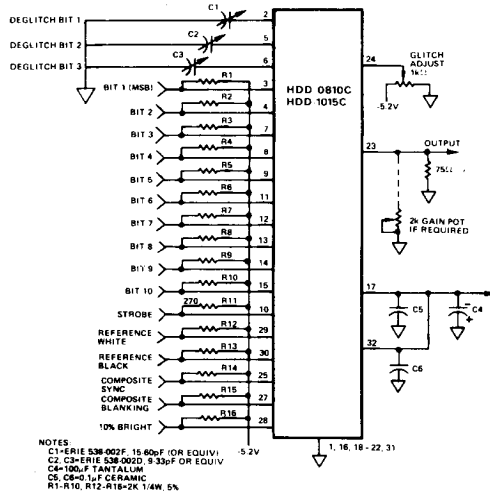

Figure 1. HDD-0810, HDD-1015C Typical Hook-Up Circuit
3. High frequency bypassing should be provided by ceramic capacitors of $0.1\mu\text{F}$ or larger mounted within 0.25 inches of Pins 17 and 32 to ground (see Figure 1).
4. The threshold of the internal current switches can be optimized for low glitch energy by the addition of an external potentiometer connected to Pin 24 of the D/A (see Figure 1). This potentiometer is adjusted for minimum glitch energy as shown in Photo 2.
If required, variable capacitors can be added to "deskw" the most significant bits for lowest glitch—although this is not usually required in many applications. These capacitors are added as shown in Figure 1 (C1-3). They are adjusted in conjunction with the glitch adjust pot for minimum glitch energy as shown in Photo 2.
The HDD Series D/As are actively laser-trimmed to provide a voltage into exactly 75Ω which is an even binary multiple; i.e., the HDD-0810 has an LSB of 4mV and the HDD-1015 has an LSB of 1mV . This makes the full-scale output slightly greater than one volt. If an output of exactly one volt is required—such as for TV reconstruction—a 2k potentiometer may be placed across the output of the D/A for gain adjustment. For a one volt output, the adjusted value of this pot will be about 1500Ω (see Figures 1 and 5).